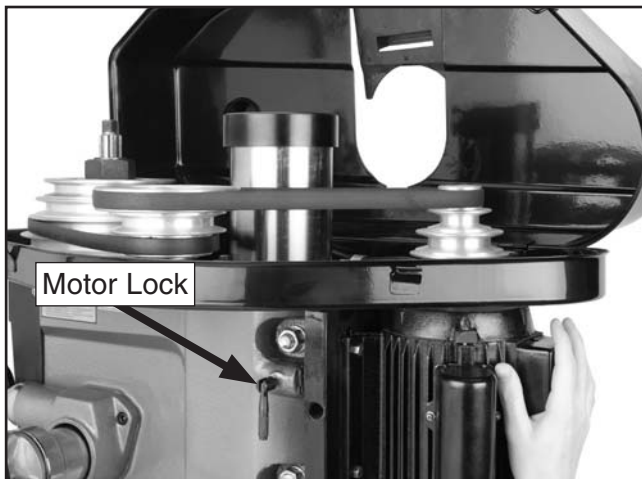

Figure 29. Releasing the V-belt tension.
3. Loosen the motor lock and push the motor toward the column to release tension on the V-belts, as shown in **Figure 29**.